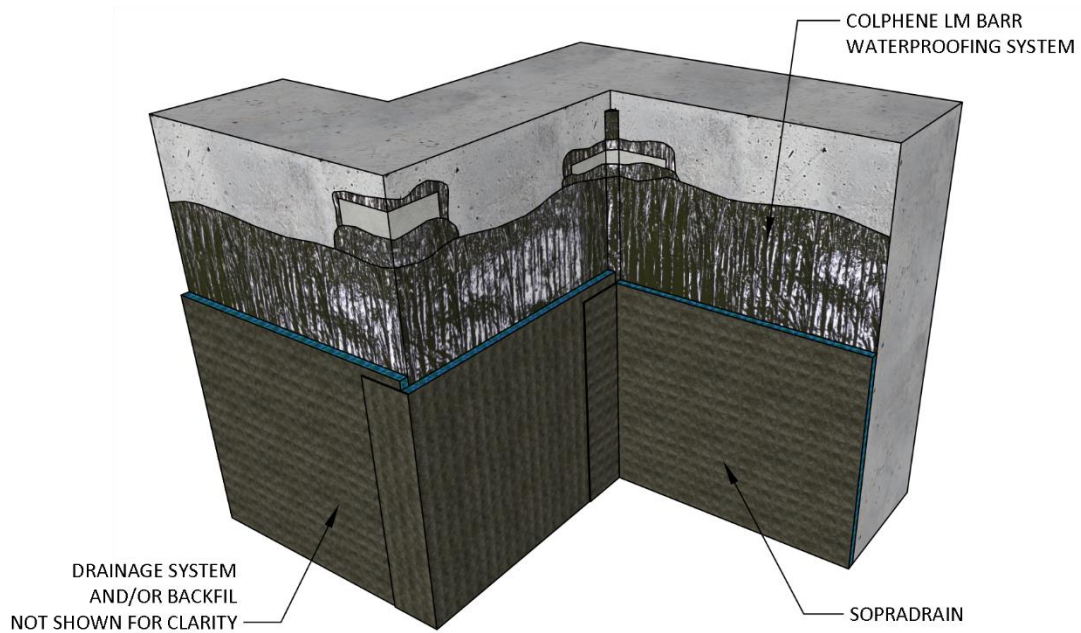
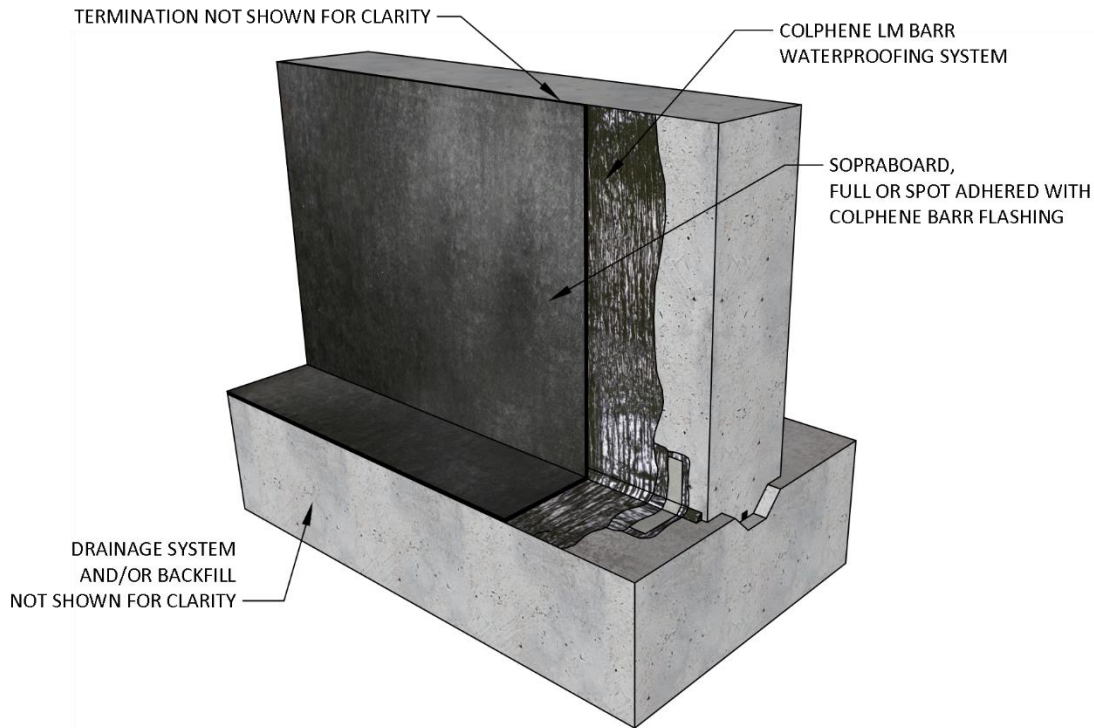

Figure 3.1b SOPRADRAIN™ At Inside/Outside Corners
Figure 3.1g SOPRABOARD™ At Transitions
- Ensure the SOPRABOARD™ is installed to cover and protect all COLPHENE® LM BARR surfaces. Refer to Figure 3.1b, Figure 3.1g, and Figure 3.1l.
- Overlap SOPRABOARD™ onto the flashing protection course to ensure the COLPHENE® LM BARR waterproofing is not exposed. Refer to Figure 3.1g.